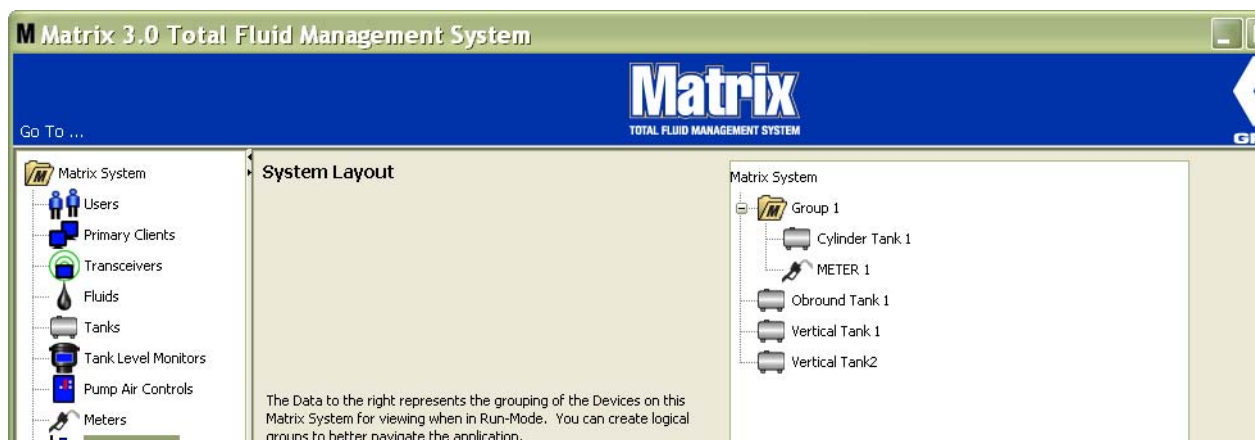

FIG. 145
12. When you are finished creating or modifying group folders, click OK to close the screen and save the changes. The Group(s) you created are displayed in the Matrix System column (FIG. 145).